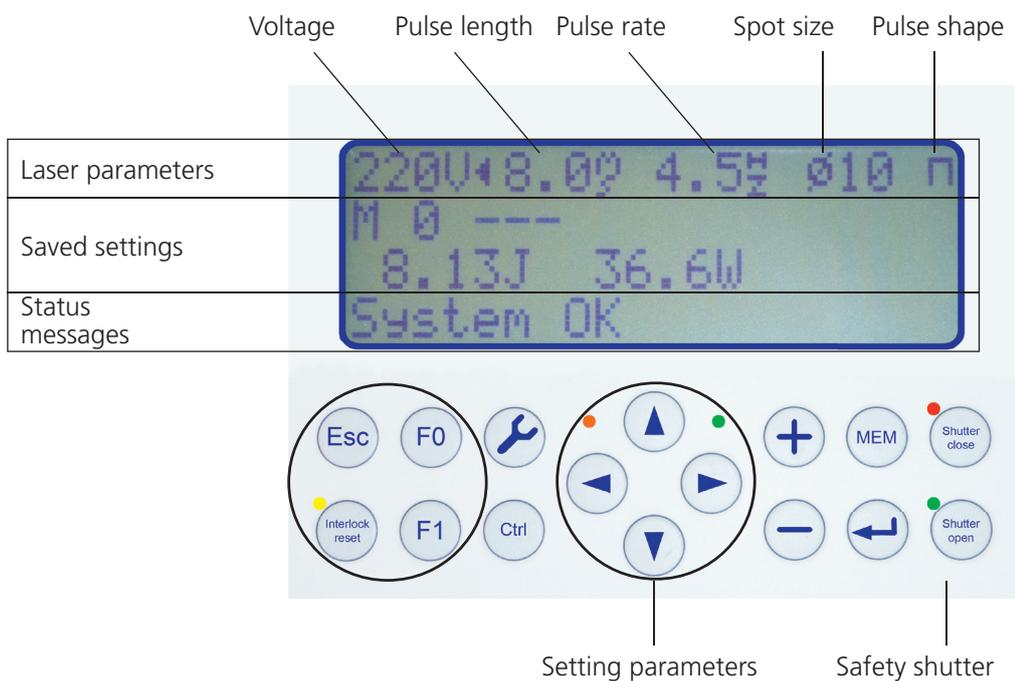

Fig. 7: Control panel
1. Turn the **key operated switch** to start the laser. Once "**System OK**" is shown on the display (see fig. 7 on page 20), the laser is ready to use.
The control panel consists of the display field and the touch keypad. In fig. 7, the status of the display is shown directly after turning on the unit.
This sequence corresponds to the sequence from left to right in the display (see fig. 7 on page 20).